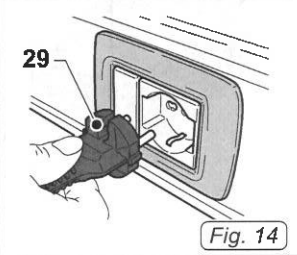

Fig. 14
- Insert the plug (29 Fig. 14) into the socket.
- Remove the plug (29 Fig. 14) from the electrical socket.